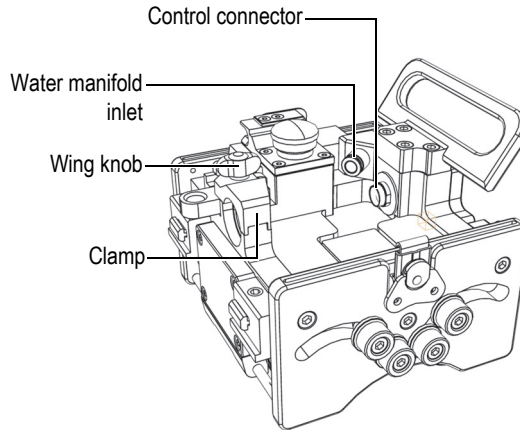

Figure 2-4 WeldROVER—umbilical fastening mechanism and connectors
3. Unscrew the wing knob to release the clamp on the fastening device (Figure 2-4 on page 37).